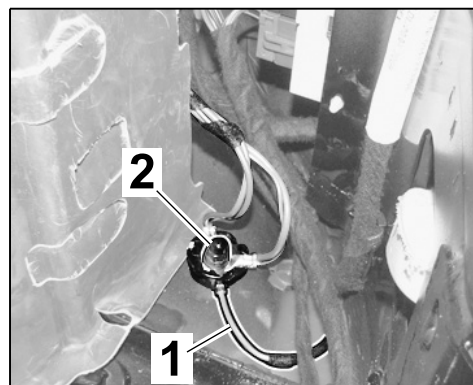

Figure 33
- 3.4.1 Connect ring eyelet (BN ground strap) ⇒ *Figure 33 -1-* to ground point MB46 (rear right wheel arch) ⇒ *Figure 33 -2-*.